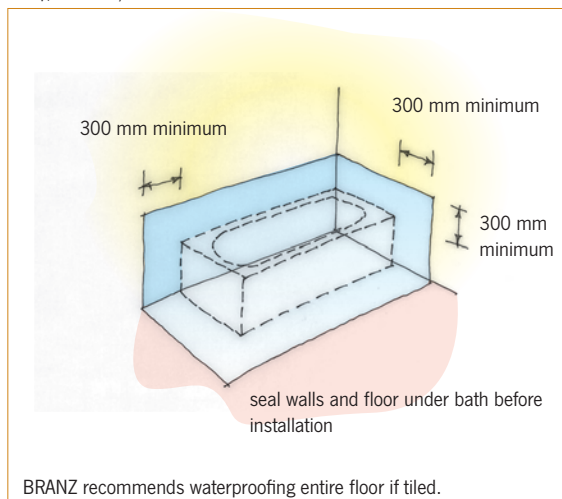

Figure 4: Waterproofing around a bath (no shower over), from AS 3740.
- In high-risk splash zones around baths, basins and laundry tubs as shown in Figures 4 and 5.